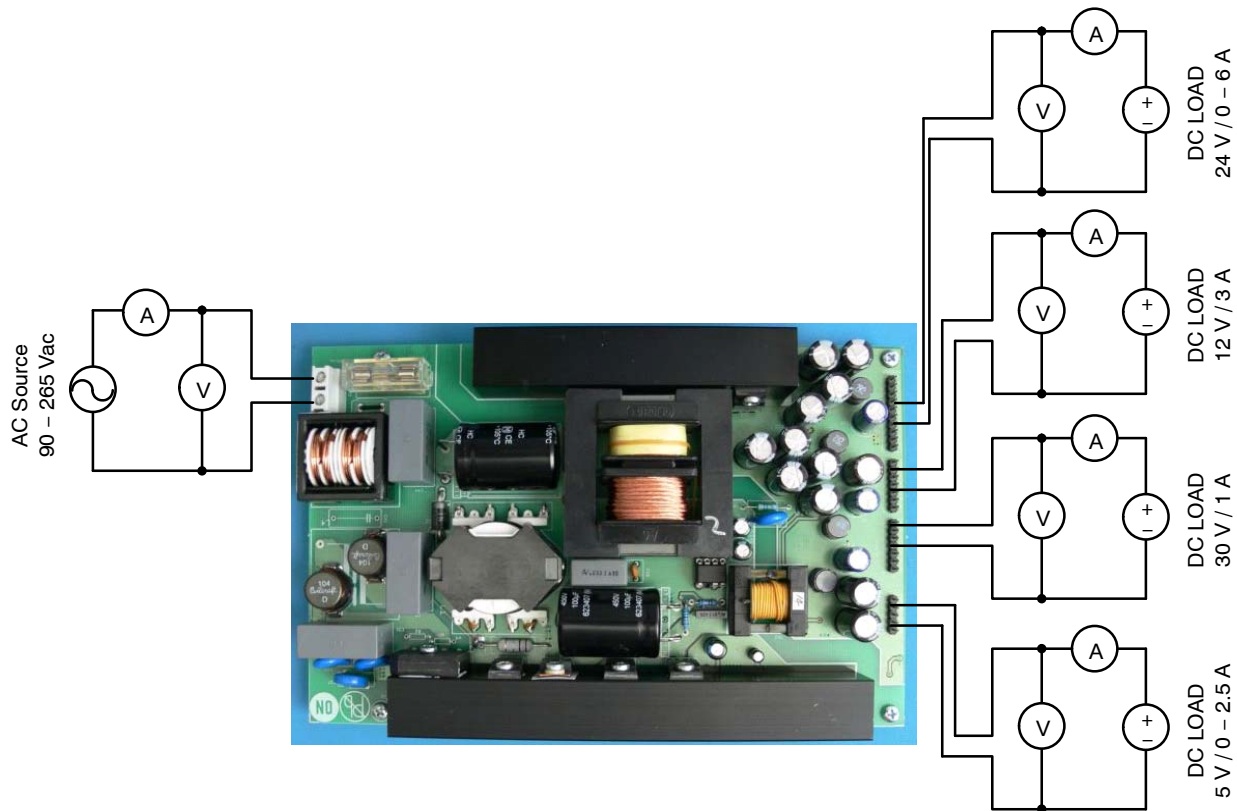

Figure 25. Test Setup
1. Connect the test setup as shown in Figure 25.